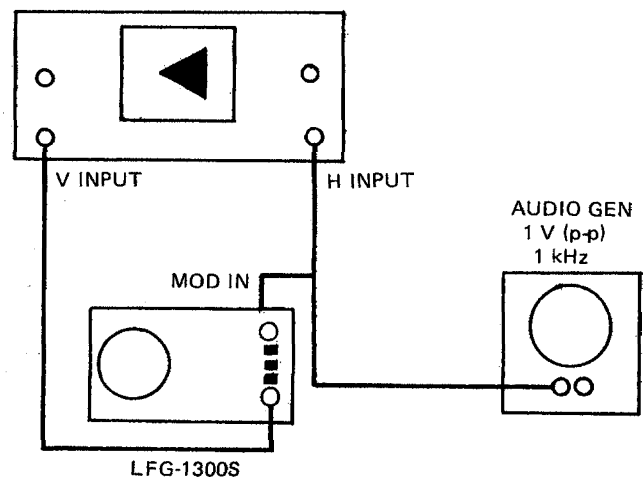

Figure 6-7. Setup For Amplitude Modulator Adjustment
- Connect the audio generator and oscilloscope as shown in Fig. 6-7.
- Adjust the CARRIER LEVEL control to obtain the waveform in Fig. 6-7.